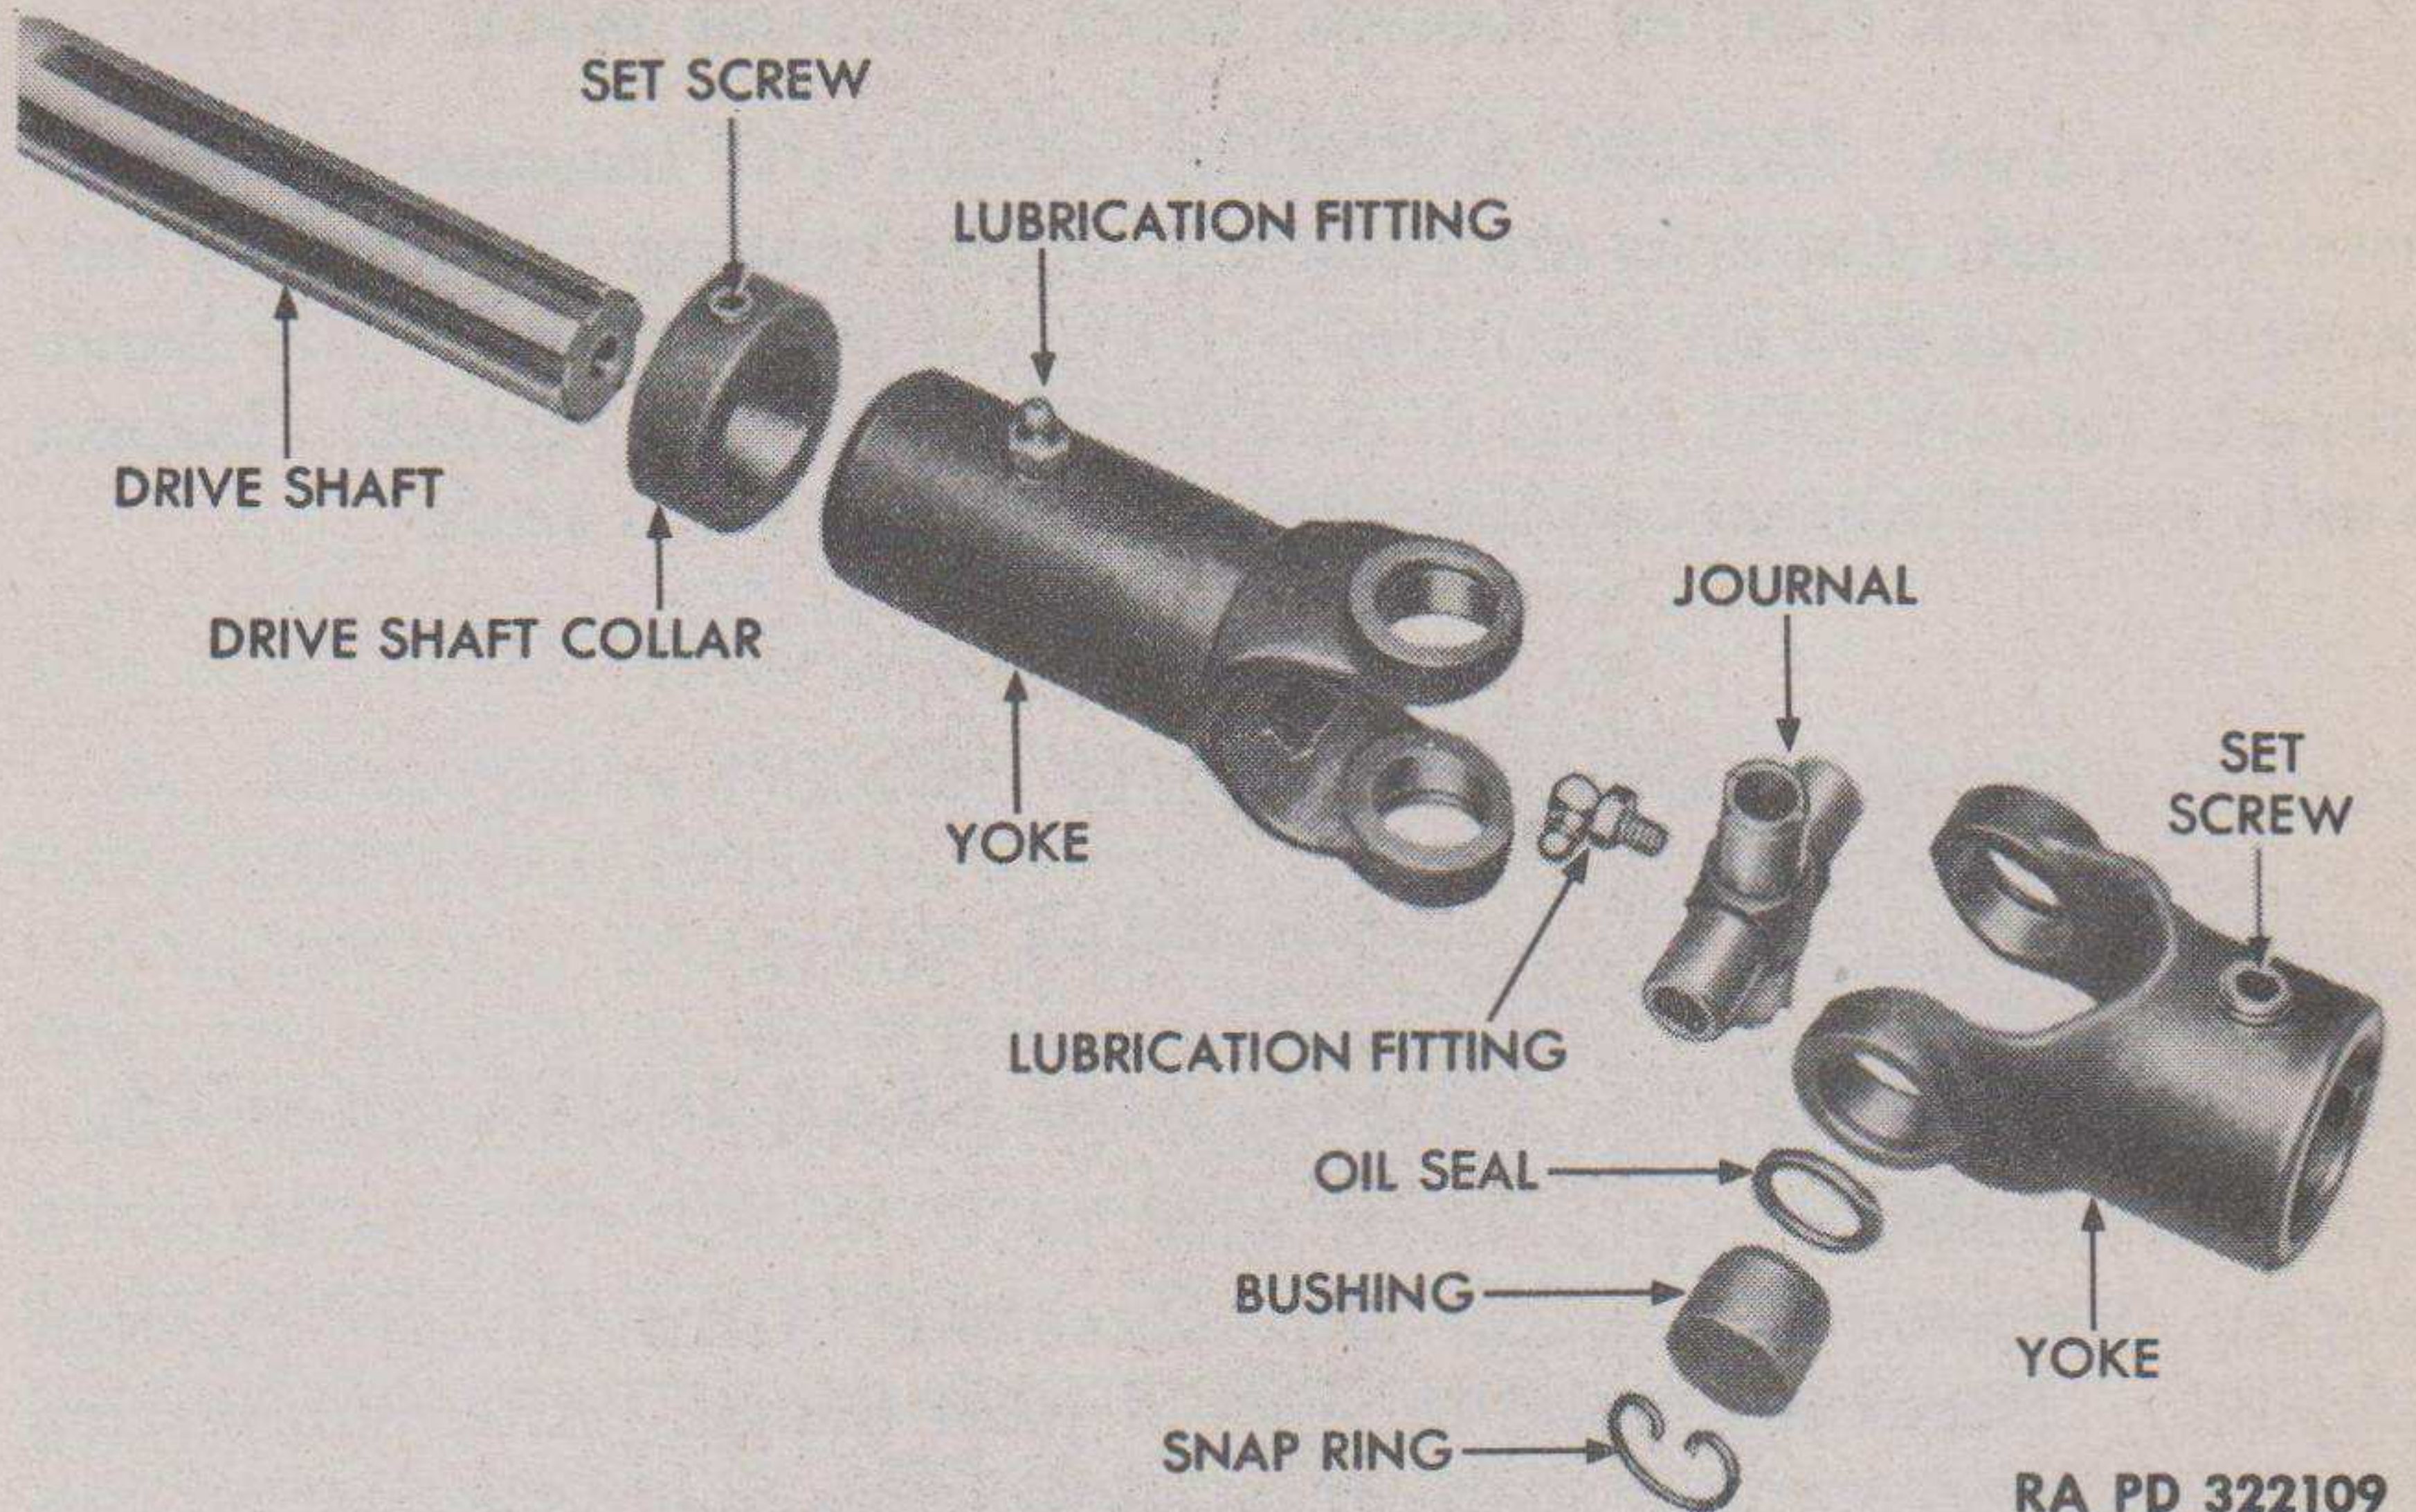

Figure 31 – Winch Drive Shaft Worm Joint Disassembled
(1) **REMOVE UNIVERSAL JOINTS (fig. 31).** Slide worm joint off drive shaft splines. Loosen drive shaft collar set screw and slide collar off drive shaft splines. Loosen set screw on take-off joint yoke
(2) **REMOVE LUBRICATION FITTINGS** (fig. 31). Remove fittings from journal and yoke sleeve to prevent damage in disassembly.
(3) **REMOVE BUSHING** (fig. 31). Remove snap rings securing bushings in yokes (fig. 31). Tap yokes around bushing seats with a soft hammer to free bushings.
(4) **REMOVE JOURNAL** (fig. 31). Lift out journal. Slide oil seals off seats on journal.
(1) **INSTALL JOURNAL AND BUSHINGS** (fig. 31). Slide oil seals into place on journal. Insert journal into yoke. Lubricate bushings and tap them into yoke and on bearing surfaces of journal. Install snap rings.
(2) **INSTALL YOKE** (fig. 31). Position second yoke over journal. Install remaining two bushings and snap rings.
(3) **INSTALL LUBRICATION FITTINGS** (fig. 31). Install fittings into openings in journal and yoke sleeve.
(4) **ATTACH UNIVERSAL JOINTS TO DRIVE SHAFT** (fig. 31). Slide drive shaft collar and the worm joint on shaft splines. Install drive shaft key on other end of shaft. Tap take-off joint onto shaft and tighten set screw.